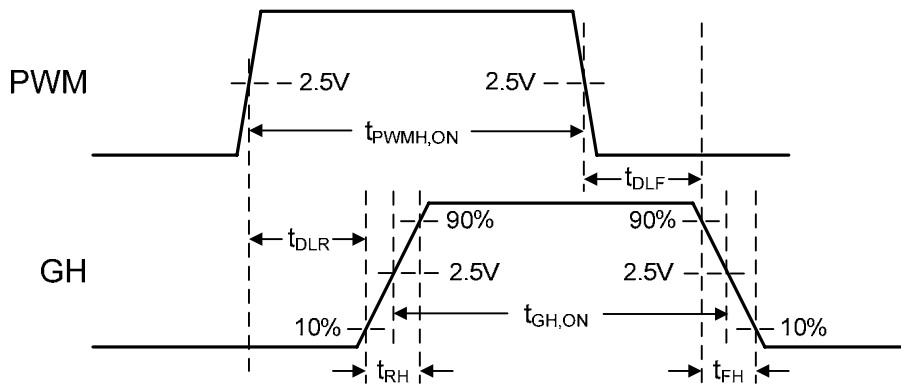

Figure 2. Timing Diagram
2. $t_{GH,ON}$ timing is shown in Figure 2.